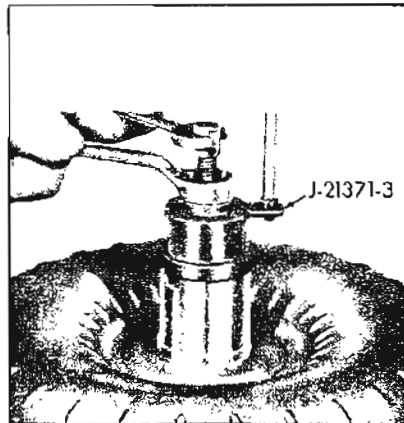

Figure 5-367
- b. Install tool J-21371-3 and tighten hex nut. See Figure 5-367.